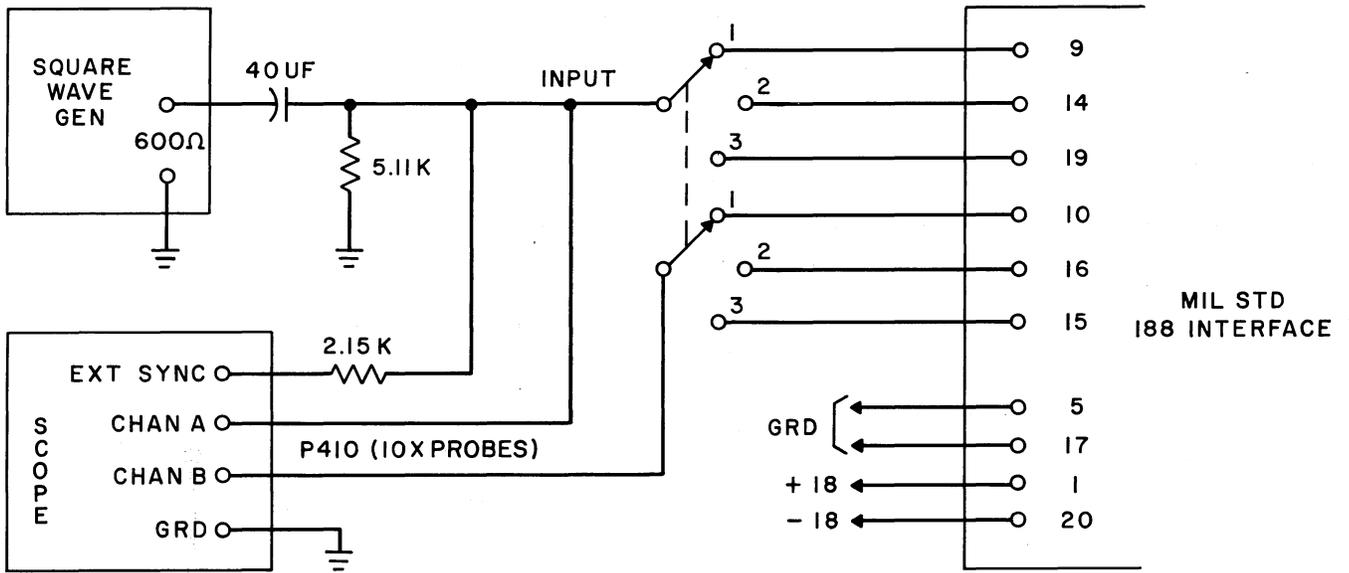
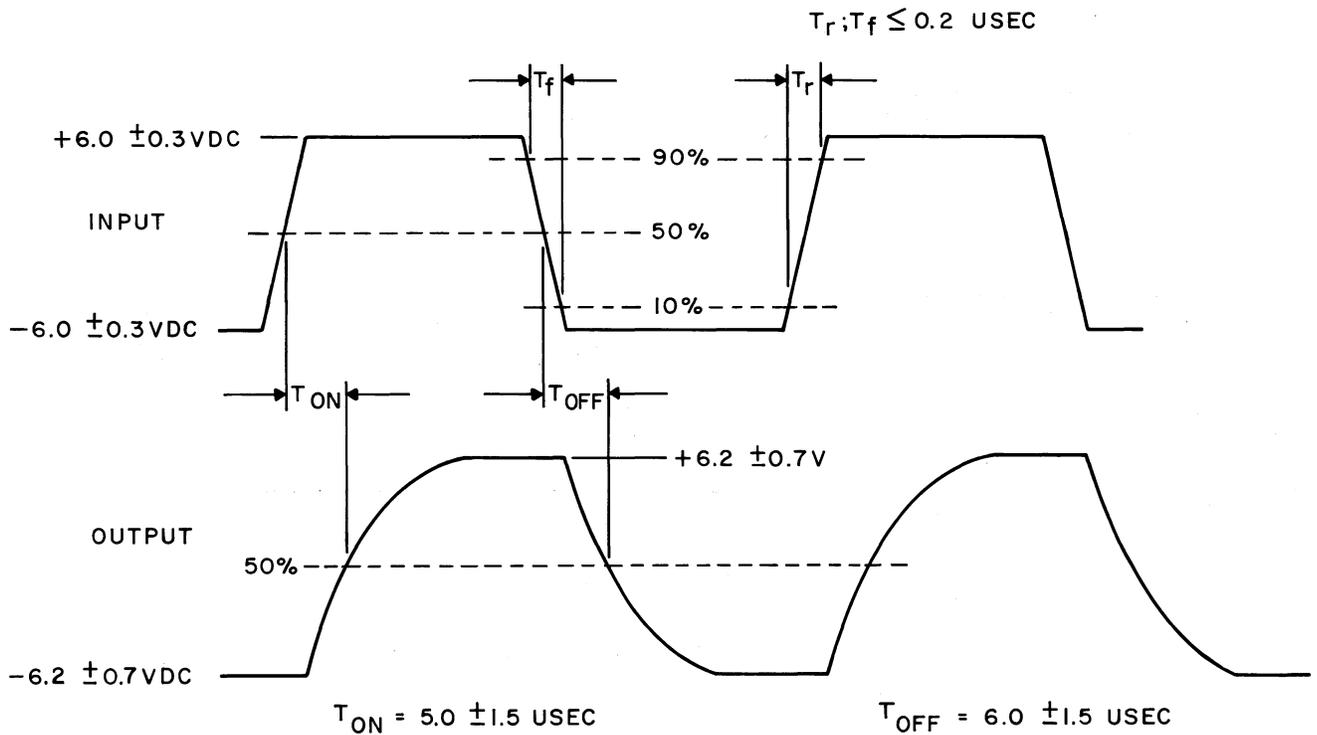

Fig. 47 - (MIL. STD 188 Interface Test)
Fig. 48 - (MIL. STD 188 Interface Test)
- (1) With the card connected as in the suggested test circuit shown in Fig. 47, connect +18.0 ± 0.5 volts dc to terminal 1, -18.0 ± 0.5 volts dc to terminal 20, and ground to terminals 5 and 17.
- (2) Set the frequency of the square-wave generator to about 5 kcps with a duty cycle of 50 per cent.
- (3) Set the scope EXT TRIGGER SLOPE to the (+) positive position.
- (4) The input wave form should be as specified in Fig. 48.
- (5) Observe the output of each of the three interface drivers by rotating the switch through positions 1 to 3. At each position the output shall be as specified in Fig. 48.
- (6) Set the scope EXT TRIGGER SLOPE to the (-) negative position. Rotate the switch through positions 1 to 3. The output wave form at each position shall be as specified in Fig. 48.